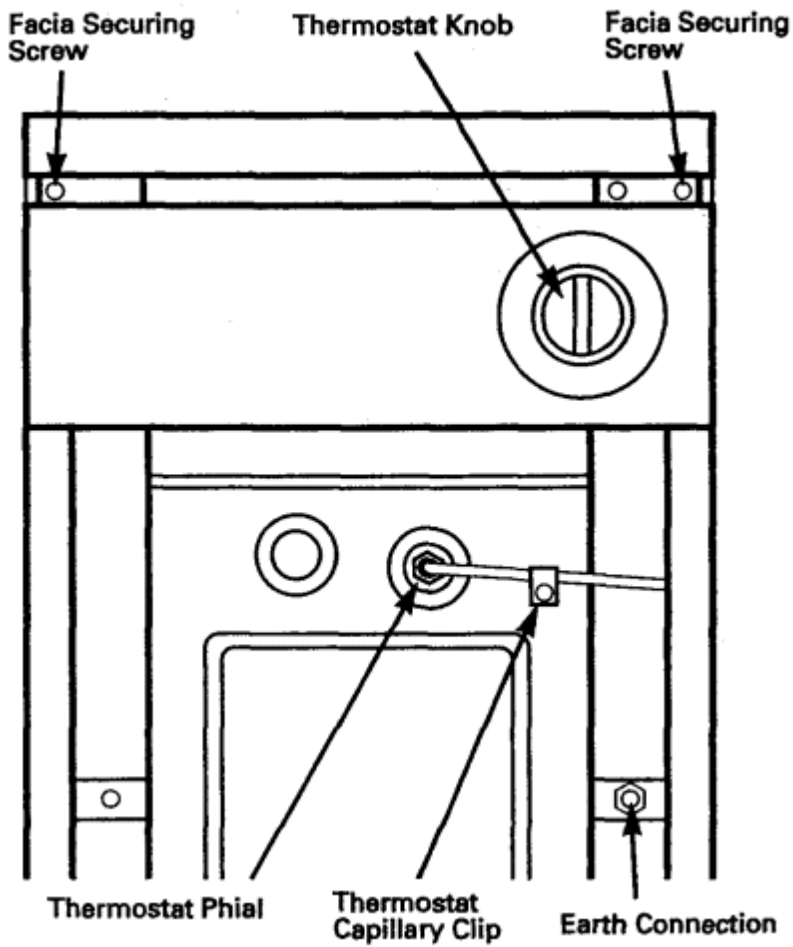

fig 8 - Boiler Thermostat
- 6) Push the thermostat phial into the thermostat pocket and clip the capillary behind the retaining clip (Fig 8).
- 3) Remove the two fascia retaining screws (Fig 8) taking care not to lose the two spacer washers and allow the fascia to swing forwards on its hinges.
- 4) Release the thermostat capillary from behind its retaining clip and remove the thermostat phial from the boiler (Fig 8).